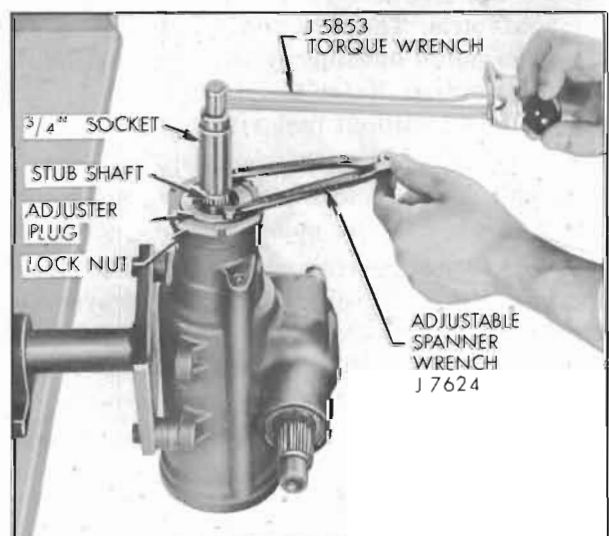

Figure 8-24—Adjusting Thrust Bearing Preload
3. Loosen adjuster plug lock nut and back off adjuster plug approximately  $\frac{1}{8}$  turn with adjustable spanner wrench J-7624. Attach torque wrench J-5853 with  $\frac{3}{4}$  inch 12 point socket to stub shaft and turn shaft to approximately  $\frac{1}{2}$  turn from either extreme. Slowly rotate wrench in an arc approximately  $60^\circ$  ( $\frac{1}{6}$  turn) in both directions several times to measure valve drag and record highest reading. See Figure 8-24. Then tighten adjuster plug until thrust bearing preload is 3 to 4 inch pounds in excess of drag measured with adjuster plug backed out. Total of thrust bearing preload and valve drag should not exceed 8 inch pounds.